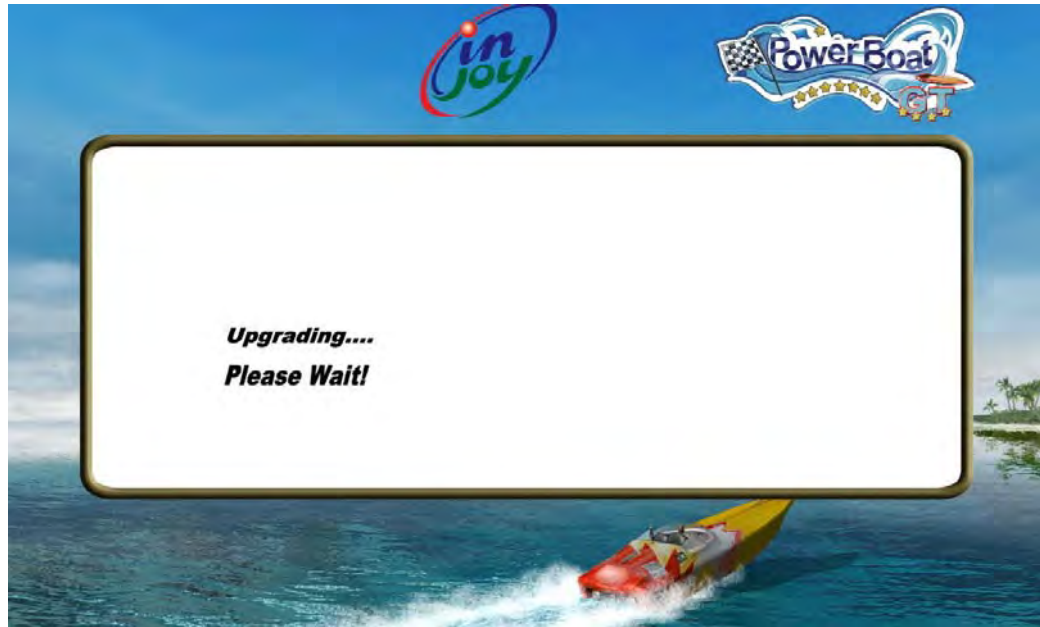

Figure 25 “Software Upgrading” Window
5. Press the “**upgrade**” button on the panel (Figure 24), and your software system will begin to upgrade/download the software automatically (Figure 25).